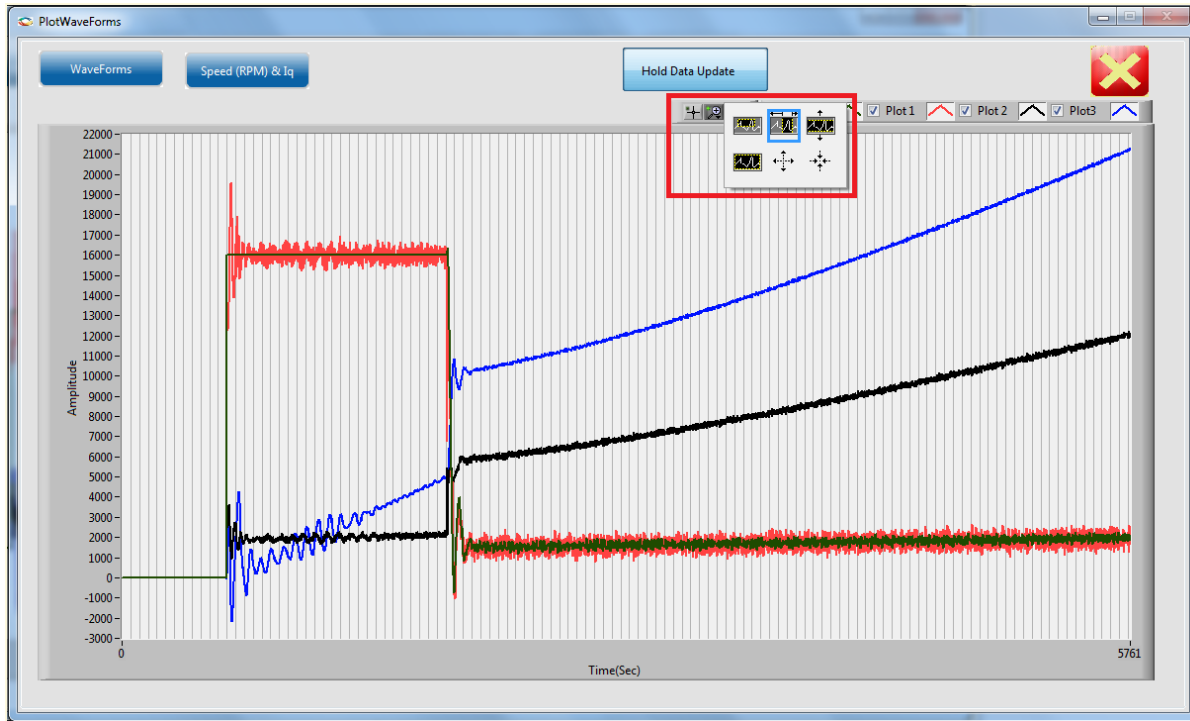

Figure 22 • Debug Waveforms Window
6. Click **Zoom** to display the debug waveforms in a separate window as shown in Figure 22. Use the Graph Palette highlighted in Figure 22 to expand and analyze the waveforms.
- b. Use the graph palette highlighted in Figure 22 on page 25 to move cursors, zoom, or pan the display. The graph palette appears with the following options, in order from left to right: